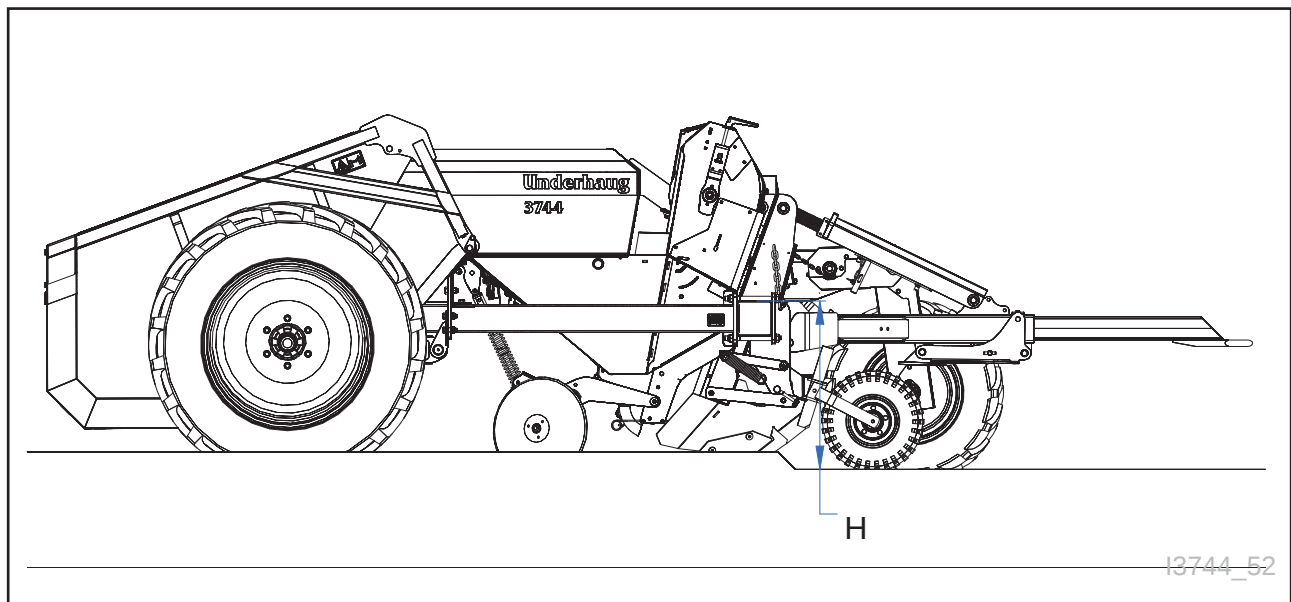

Fig. 53
- Place nut **B** until height **H** is about 60cm from the top of ground. **See Fig. 53**